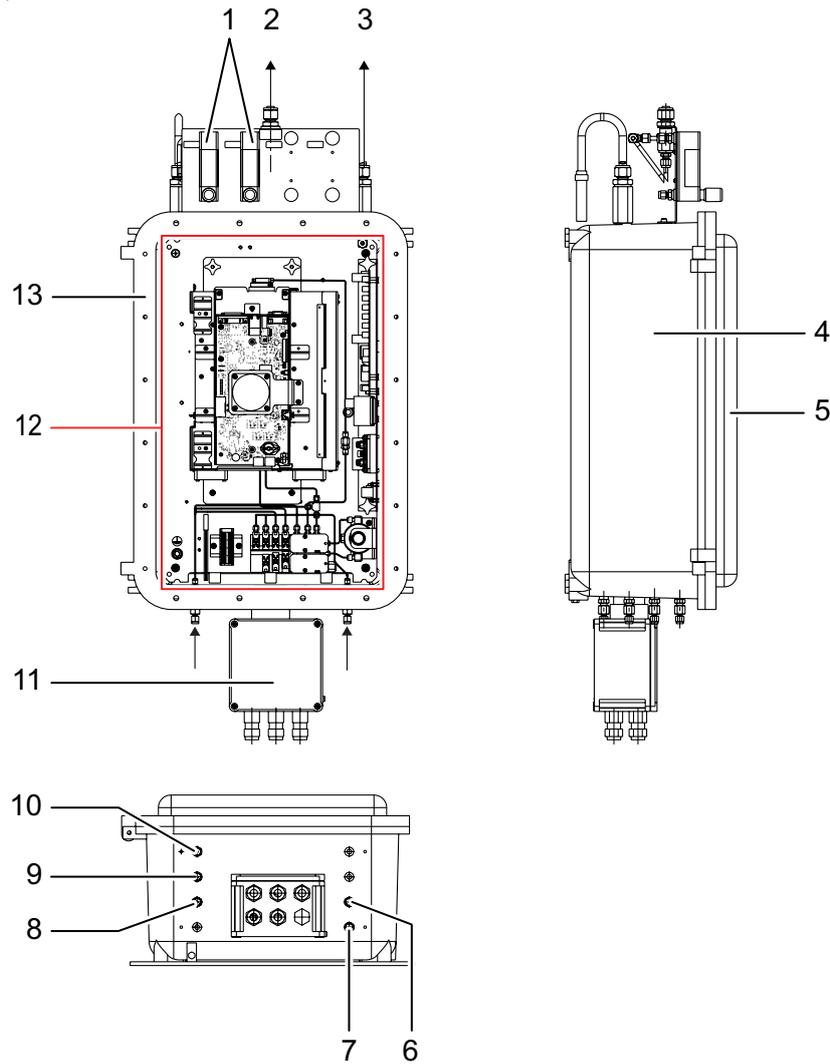

Fig. 2: PGC 9301 with housing for wall-mounted assembly
- PGC 9301 with housing for wall-mounted assembly (see fig. 2)